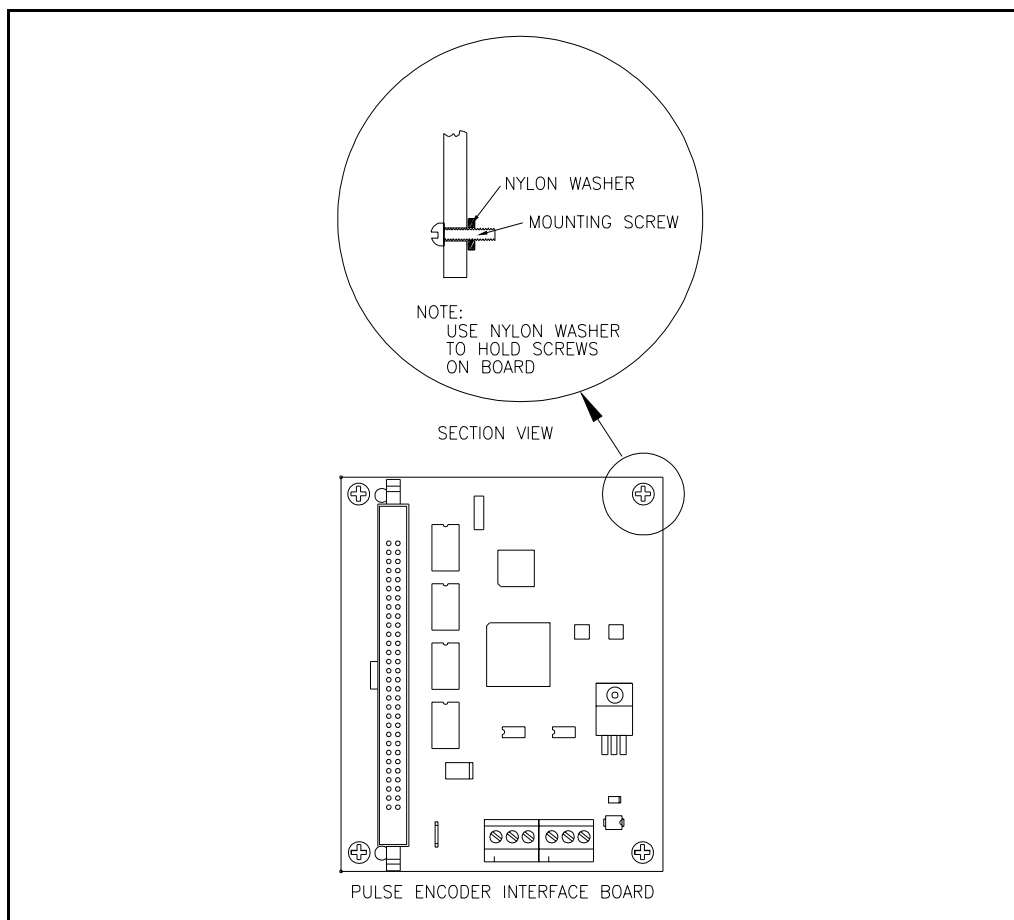

Figure 2.2 – Installing the Mounting Screws and Washers on the Pulse Encoder Interface Board
If no I/O Expansion board is mounted on the carrier, perform the following steps (refer to figures 2.2 and 2.3). **If an I/O Expansion board is mounted on the carrier, skip to step 6.**
- Step 2. Slide a nylon washer over the end of each mounting screw. When the Pulse Encoder Interface board is mounted, the washers are between the board and the OIM carrier's standoffs (see figure 2.2).
**If an I/O Expansion Board is mounted on the carrier, perform the following steps (refer to figures 2.2 and 2.4).**
- Step 7. Slide a nylon washer over the end of each mounting screw. When the Pulse Encoder Interface board is mounted, the washers are between the board and the I/O Expansion board's standoffs (see figure 2.2).